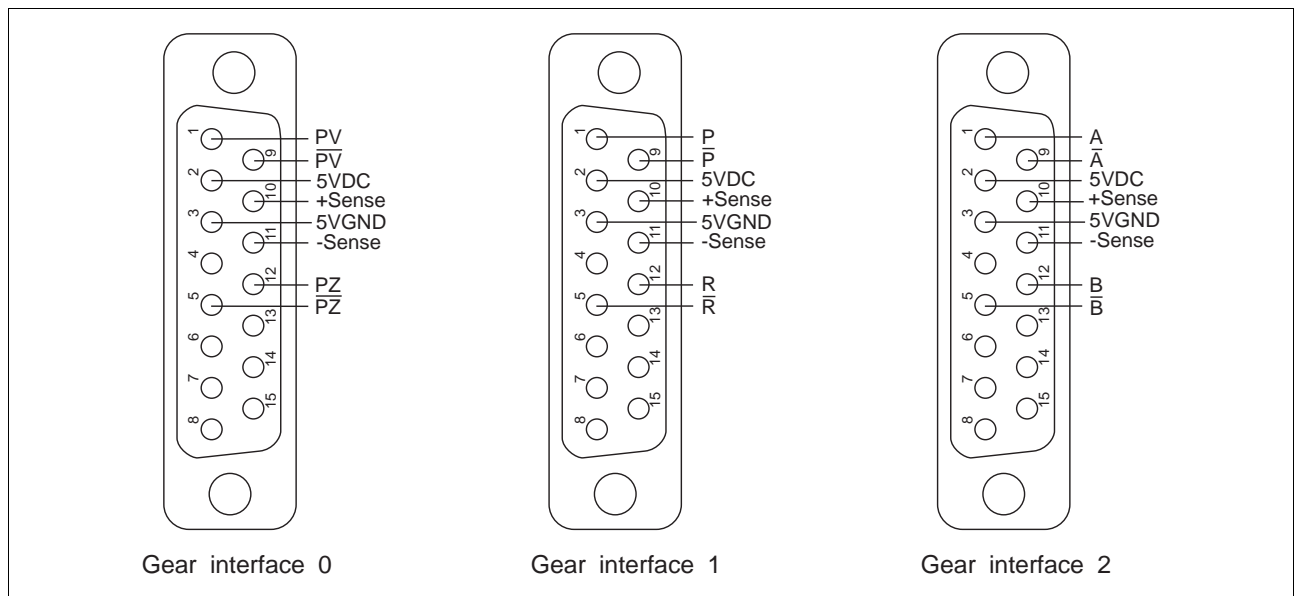

Fig. 2-19 Gear connector – unit side
1. Solder litz wires to connector according to fig. 2-19.